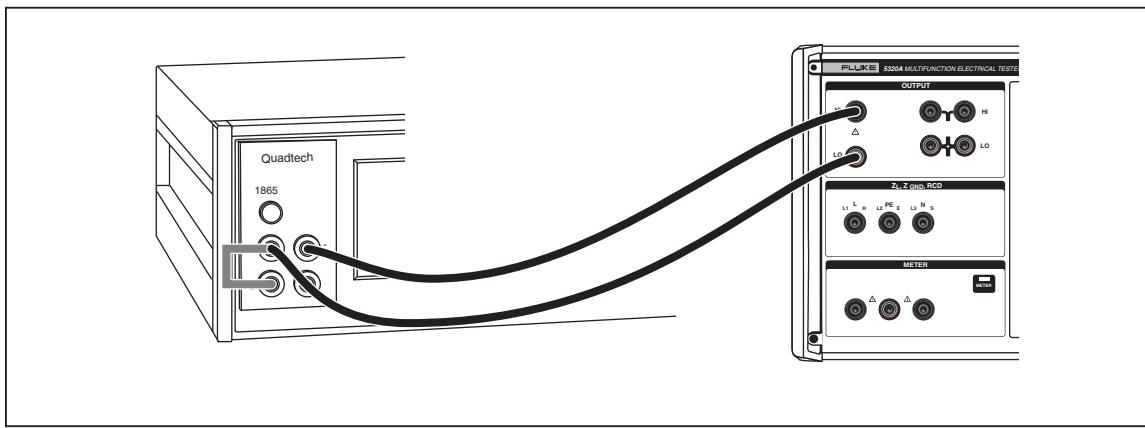
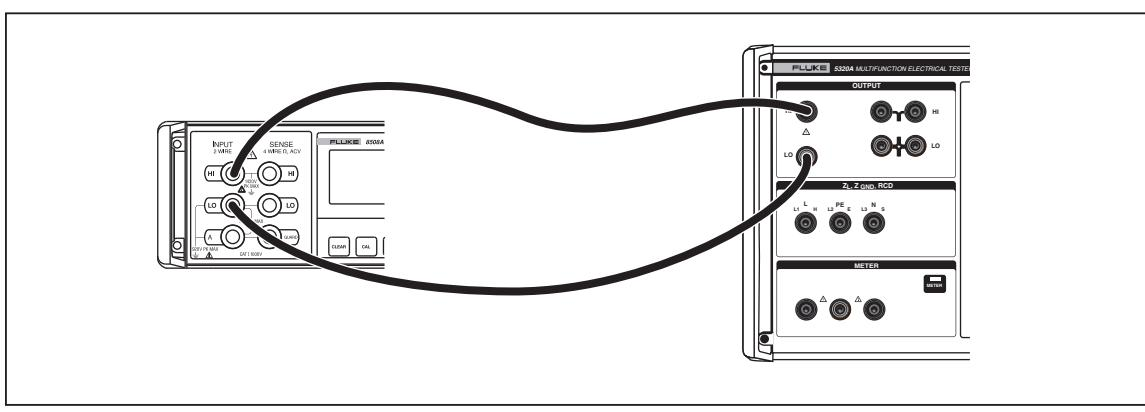

Figure 3-5. High Resistance Source ($>10\text{ M}\Omega$) Calibration Connections
Figure 3-6. High Resistance Source ($<10\text{ M}\Omega$) Calibration Connections
1. Connect the Calibrator directly to the Megohmeter (for values above $10\text{ M}\Omega$) as shown in Figure 3-5 or to the multimeter (for values less than $10\text{ M}\Omega$) as shown in Figure 3-6.